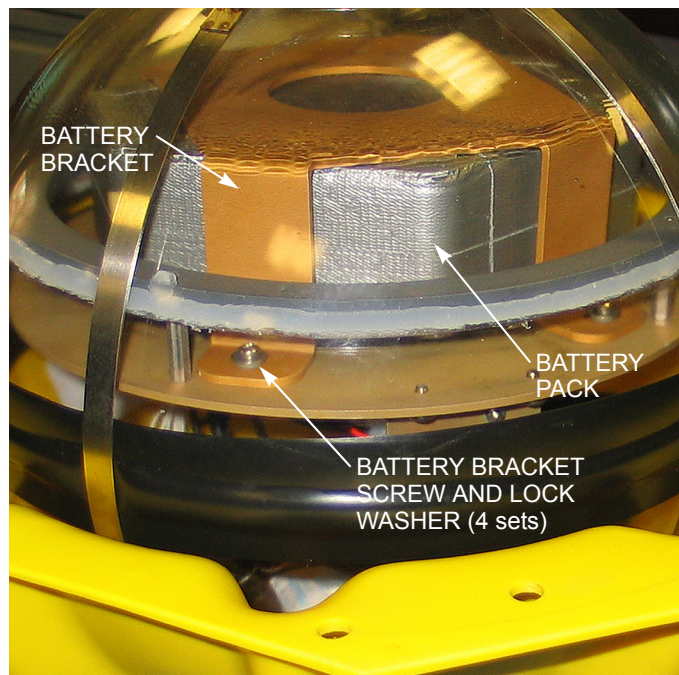

Figure 4-5 Battery Bracket Mounting Hardware, Battery Bracket and Battery Pack
12. Remove the battery bracket mounting hardware—four each a screw and lock washer, as shown in Figure 4-5.